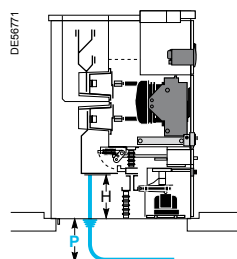

Figure 1
(1) When installing a LV core balance CT, use a type ARC3 LV core balance CT when connecting with 2 cables (see page E-12).
- The cubicles and cables requiring the maximum depth should be taken into consideration when determining the depth **P** of a switchboard cable duct (figure 1)